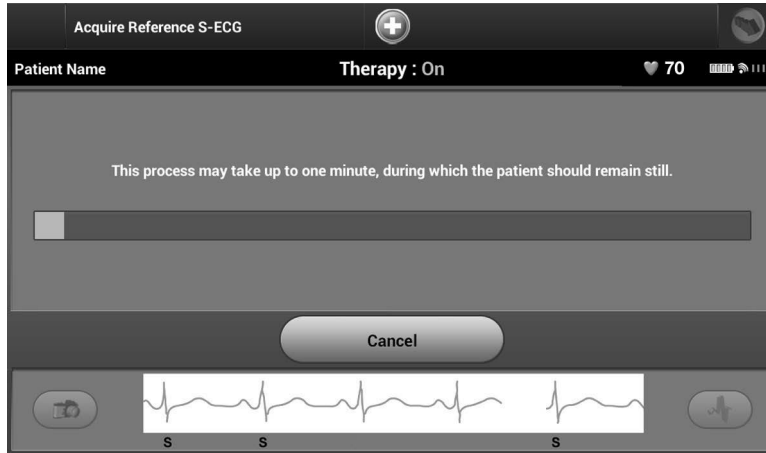

Figure 48: *The patient should remain still while the Reference S-ECG is acquired*
2. Select Continue to acquire a Reference S-ECG. The programmer will begin acquiring the Reference S-ECG. A message will appear requesting that the patient remain still (Figure 48). The reference S-ECG QRS template is recorded and stored in the pulse generator.